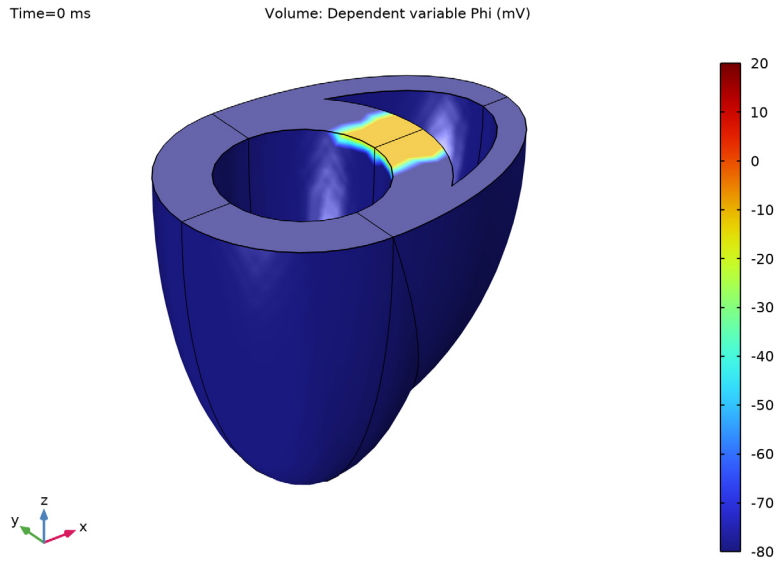

Figure 6: Initial impulse at the atrioventricular node.
- An initial pulse of electric potential (-10 mV) is applied on a rectangular area on the basal surface between the ventricles (Figure 6).